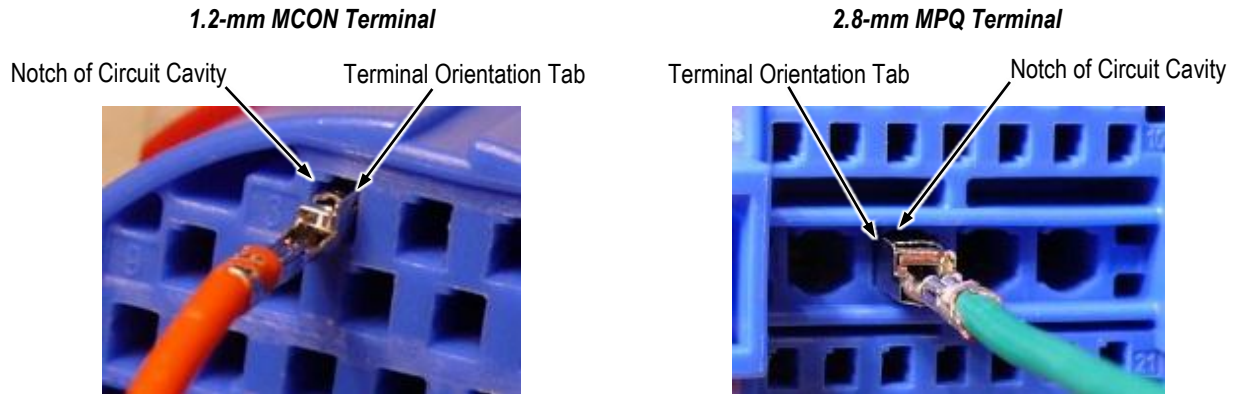

Figure 2
3. Align a crimped terminal with the appropriate circuit cavity of the cap assembly so that the orientation tab of the terminal is aligned with the notch of the circuit cavity. See Figure 2.